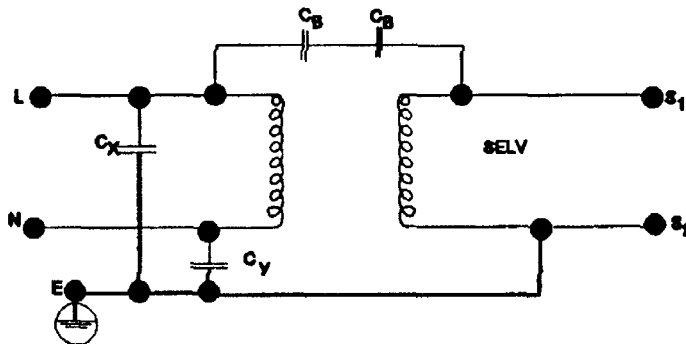

Fig. 2B
- The circuit shown in Fig 2B shall apply if the winding does not meet the requirements of an acceptable ground path. The secondary leakage current shall be < 0.5 mA under single fault condition and < 0.25 mA under normal operation.